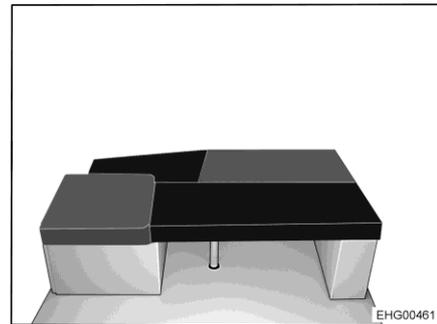

Fig. 177 After conversion
- Place rectangular additional cushion on the table (see Fig. 177).
- Place triangular additional cushion on the long bed widening between lateral seat and individual bench (see Fig. 177).